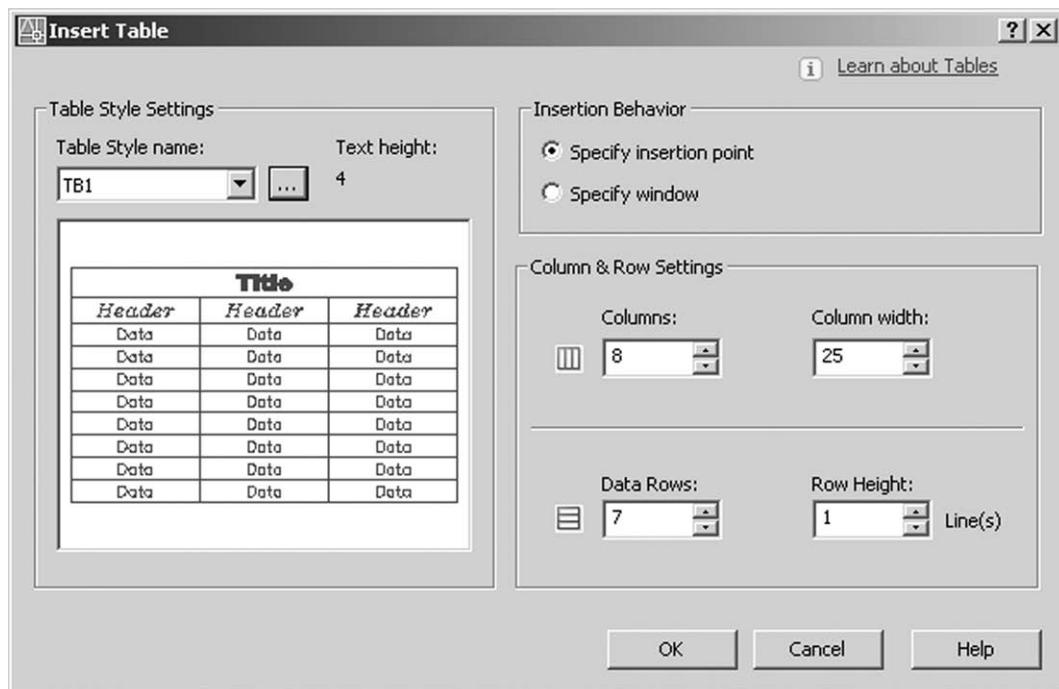

Figure 24.4 The Insert Table dialogue box for table style TB1.
2. Data Rows: 7 with Row Height 1 – Figure 24.4